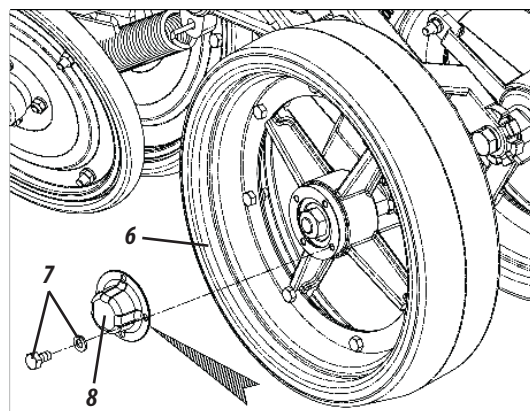

Figure 72
10 - In the oscillating wheels (6) loosen the screws and washers (7), remove the cap (8) and put new grease. Replace the cap on the wheel and fix it with the screws and washers (8), as shown in Figure 72.